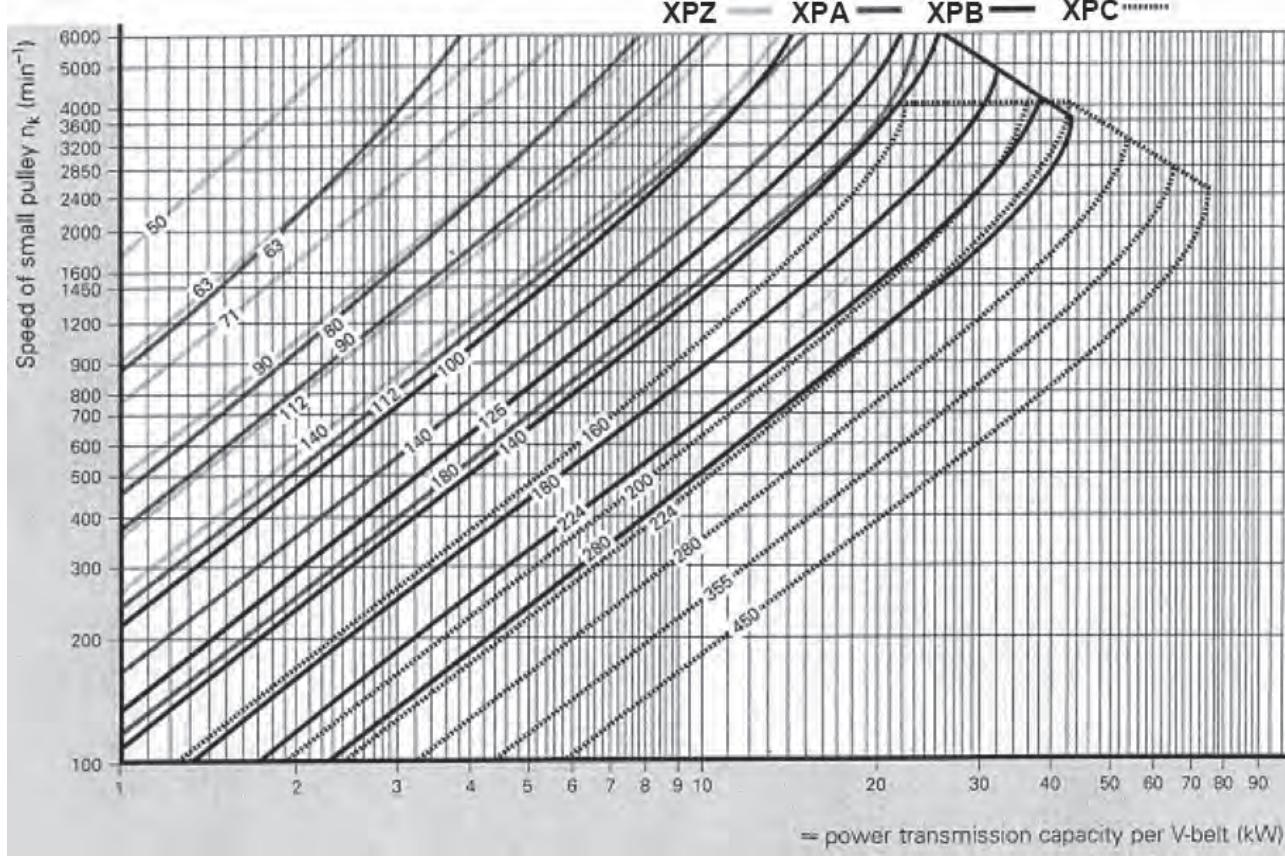
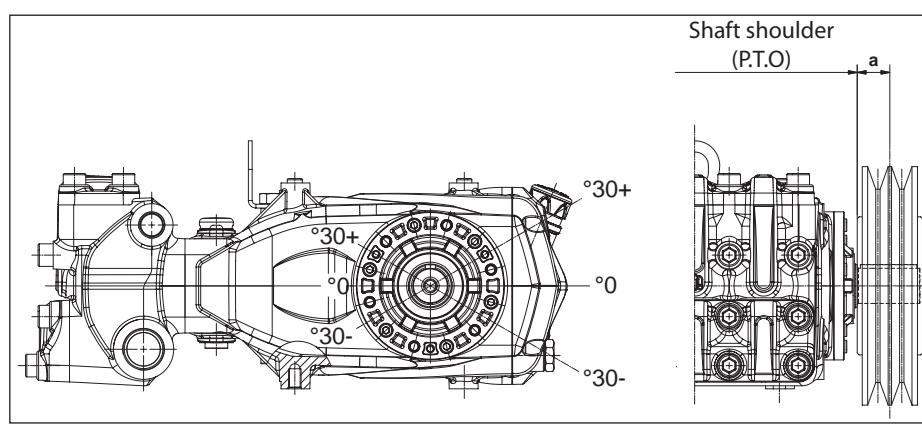

Fig. 7
Fig. 10
For these pump models, we recommend use of 3 XPB belts (16.5x13 serrated). Use an XPC profile only for long durations. Both the characteristics and transmissible power of each belt can be verified in the diagram in Fig. 7, in relation to the number of rpm normally declared by the manufacturer. Minimum duct pulley diameter (on pump shaft):  $\geq 160 \text{ mm}$ . The radial load on the shaft must not exceed 4500 N (value necessary for Layout definition). The transmission is considered adequate if the load is applied to a maximum distance **a = 50 mm** from the shaft shoulder (P.T.O) as shown in Fig. 10.
“a” of Fig. 10.
- e) Follow the direction of the belt pull as shown in Fig. 10 for other needs, contact our **Technical** or **Customer Service Departments**.